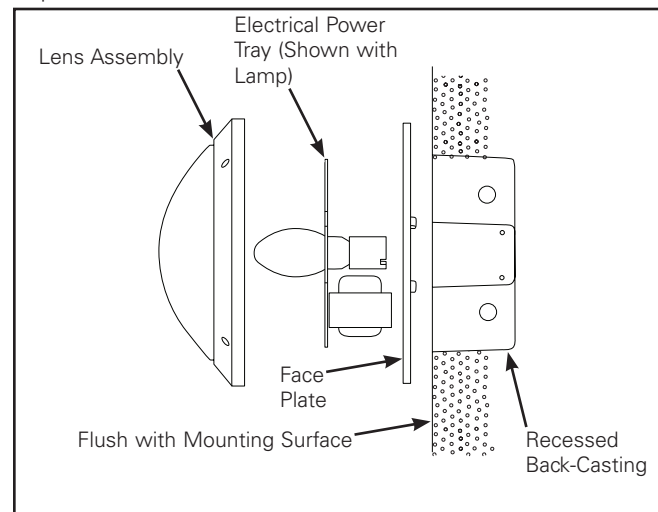

Figure 5. Lens / Face Plate Assembly Harmony™ Series
- To prepare faceplate, remove Torx® screws from front of lens assembly until faceplate comes free (Figures 5 and 6.). Inspect back of faceplate. Check to ensure gasket is aligned around perimeter of “cross” pattern in recessed groove.